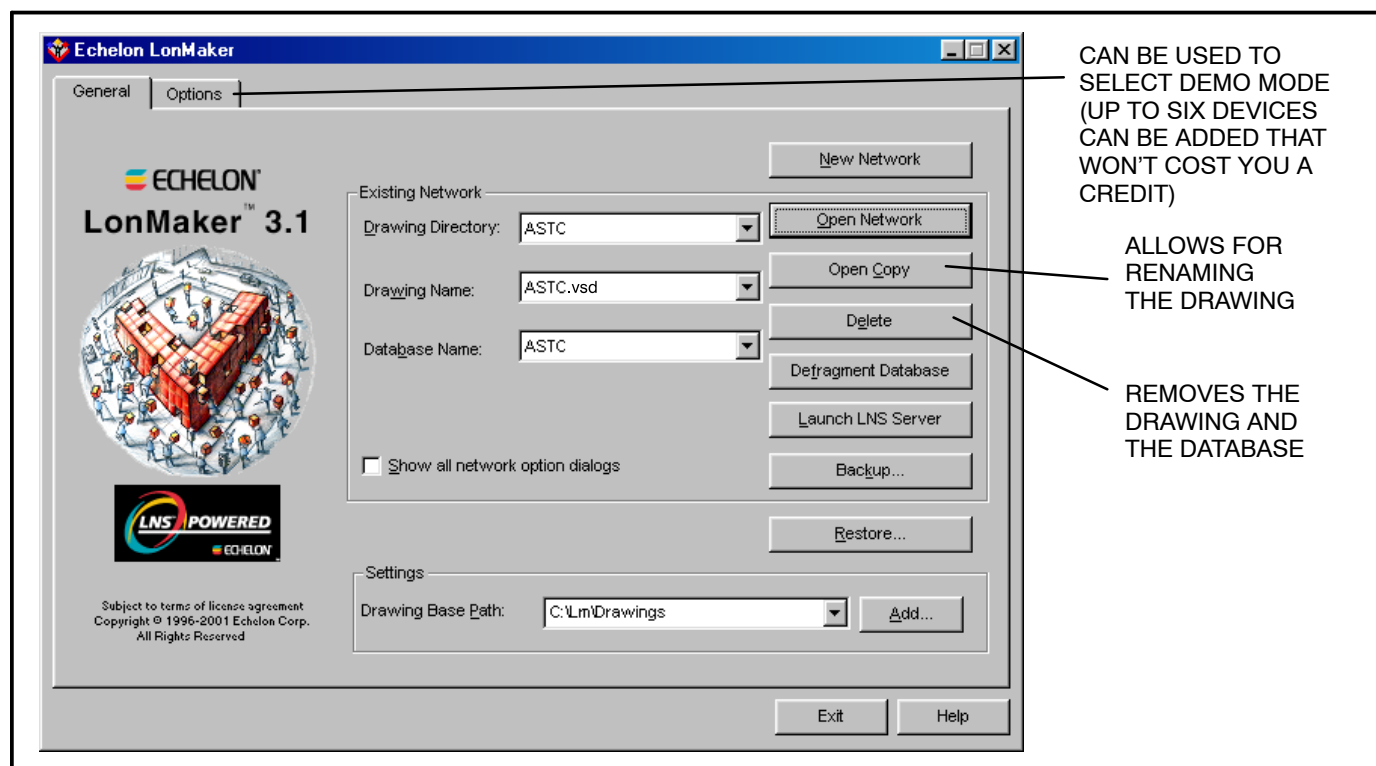

FIGURE 4-4. LONMAKER START-UP MENU
1. Select Start → Programs → Echelon LonMaker for Windows. The LonMaker Start-Up Menu is displayed (see Figure 4-4).